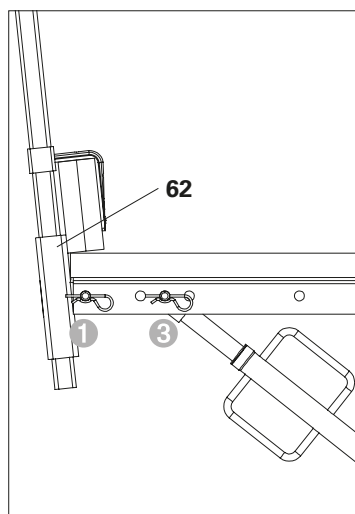
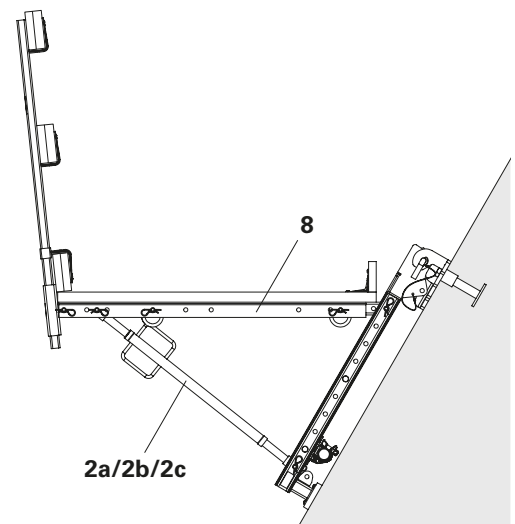

Fig. A4.06a
Fig. A4.06
- Guardrail Holder VGK (62) is always used on the 1st and 3rd hole of Formwork Post VGK 120 (8).
- (Fig. A4.06 + Fig. A4.06a)